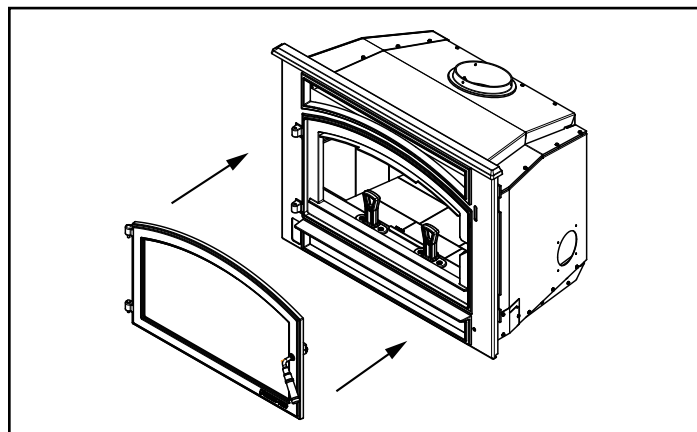

Figure 5.11
6. Reinstall door to face of appliance (Figure 5.11).
- 9. Reinstall the door to the face of the appliance (**Figure 5.11**).